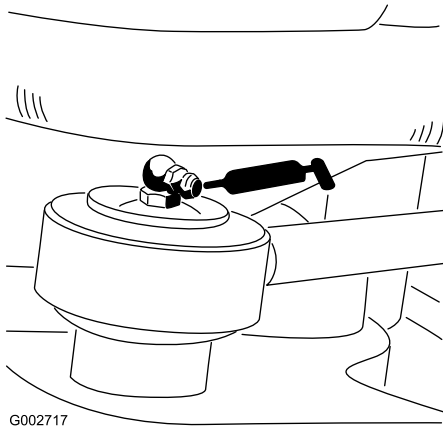

Figure 24
- Steering cylinder rod end (1) (Model 08705 only) (Figure 24)